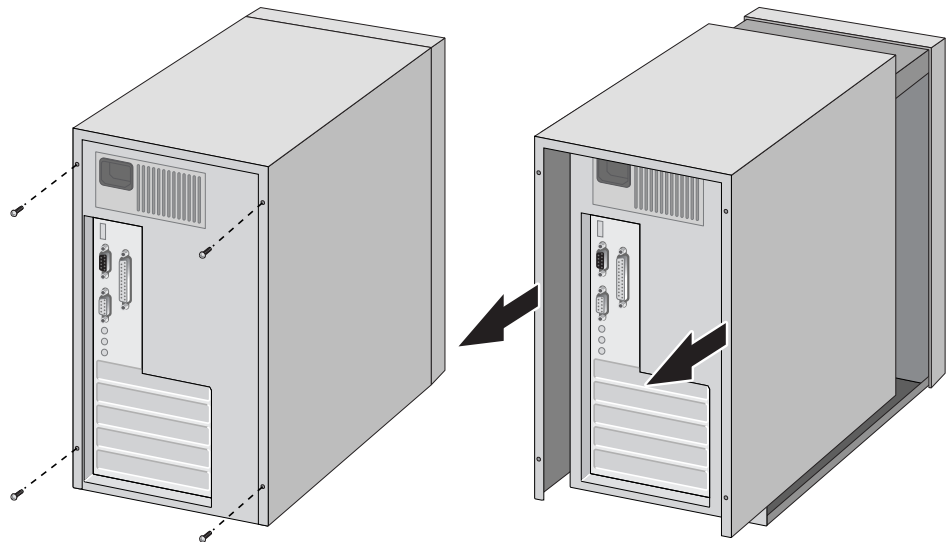

Figure 2. Removing the PC Cover
2. Remove the system cover and select any empty PCI-E slot. See Figure 2.